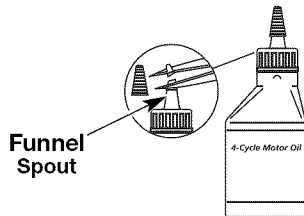

Fig. 7
Your unit is supplied with one 2.03 fluid oz. (60 ml) bottle of SAE 30 SF, SG, SH oil (Fig. 7).
1. Unscrew the top of the bottle of oil and remove the paper seal covering the opening. Replace the cap. Next, cut the tip off the funnel spout (Fig. 7).